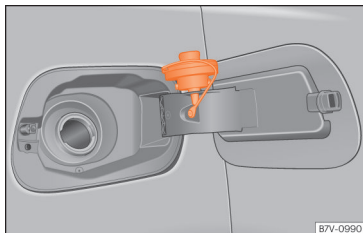

Fig. 281 Fuel tank flap with tank cap attached.
- Place it in the space on the hinge of the open flap »» Fig. 281.